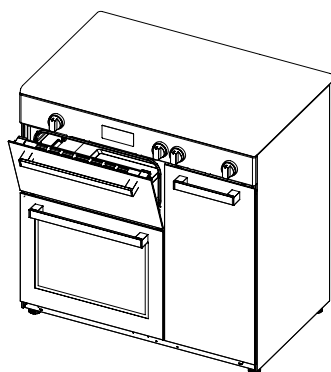

Figure 53
3. Place the safety panel under control panel by opening the oven front cover glass. (figure 53)